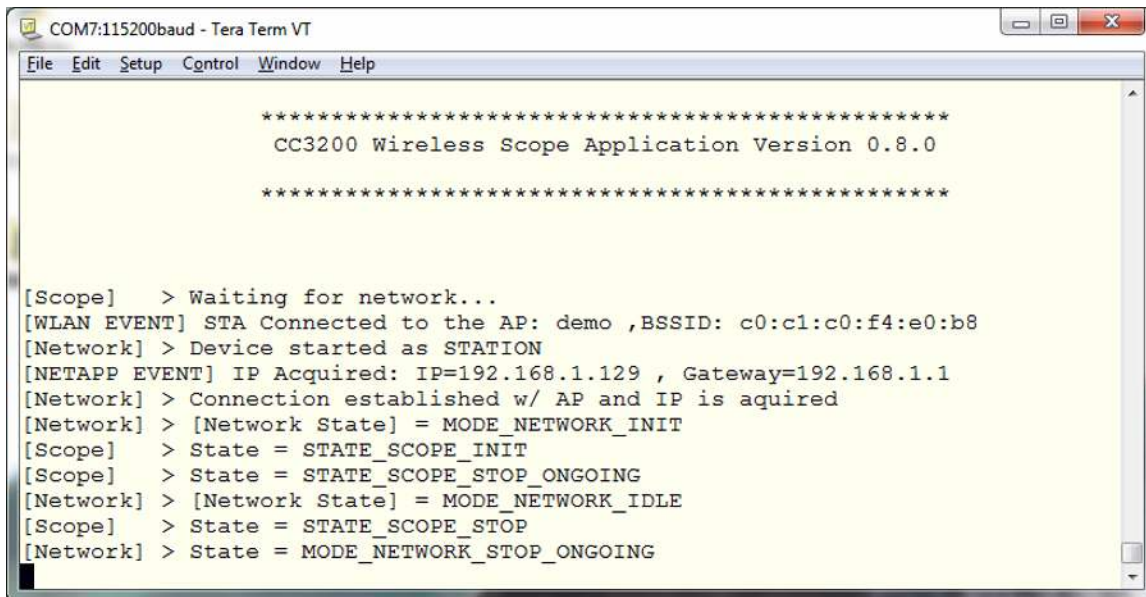

Figure 8. Software Logger Terminal Output
2. Once the COM port number has been determined (COM7 in this case), open your favorite terminal and set it to this port number with a baud rate of 115200. This communication channel is unidirectional and only displays plots from the software (see Figure 8).